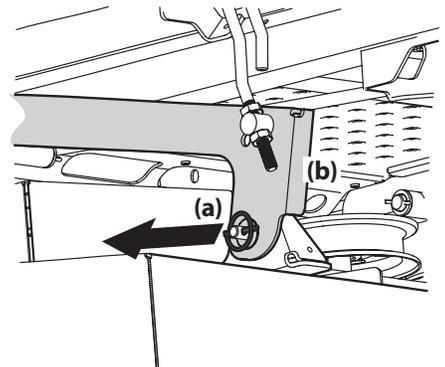

Figure 4-16
6. Locate the LH and RH deck release pins (a) on each side of the deck. Pull the deck release pins (a) outward and release the deck from the LH and RH deck lift arms (b). See Figure 4-16.
- Pull the deck release pins outward and maneuver the deck as necessary to align the holes in the deck lift arms with the pins. Refer to Figure 4-16.